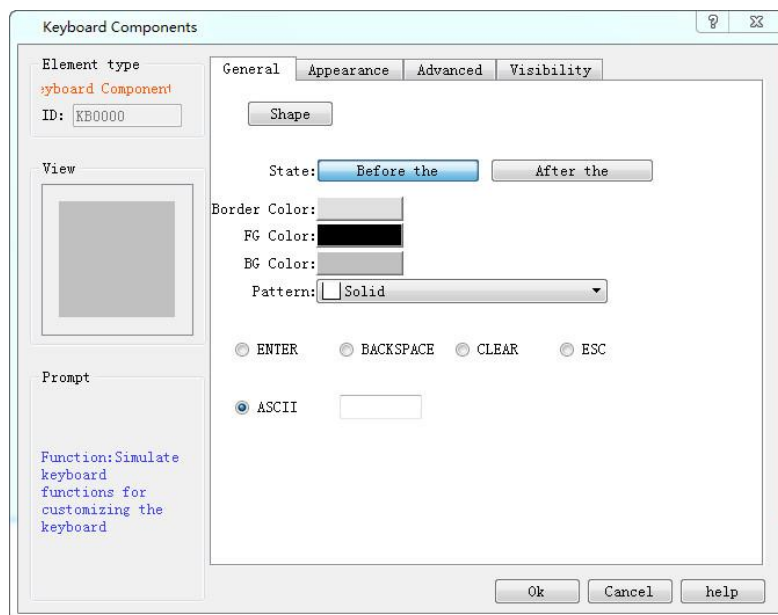

Figure 4-123 Keyboard General Page dialog box
**1. Keyboard:** This control is employed to customize the keyboard, composed of each button on the keyboard. The icon of the control on the toolbar is: ; Click on the button, then a dialog box shown in Figure 4-123 will pop up.